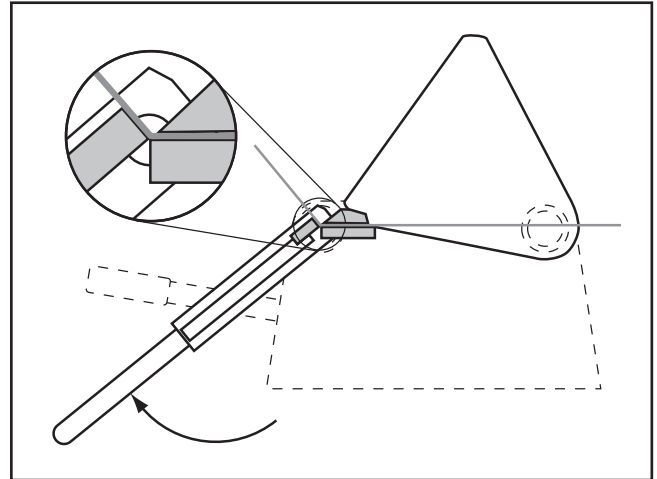

Figure 13. Bending workpiece.
4. Lift the bending leaf until the workpiece has reached the desired bend angle, then lower the bending leaf (**Figure 13**).